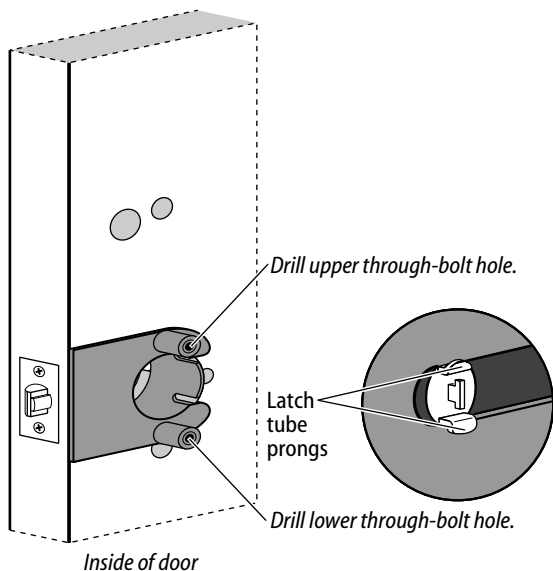

Figure 4 Installing the drill jig and drilling the through-bolt holes
- 1 Press the drill jig (KD303) onto the door, engaging it with the latch tube prongs (see the close-up in Figure 4). Make sure the front edge of the jig is parallel with the door edge.